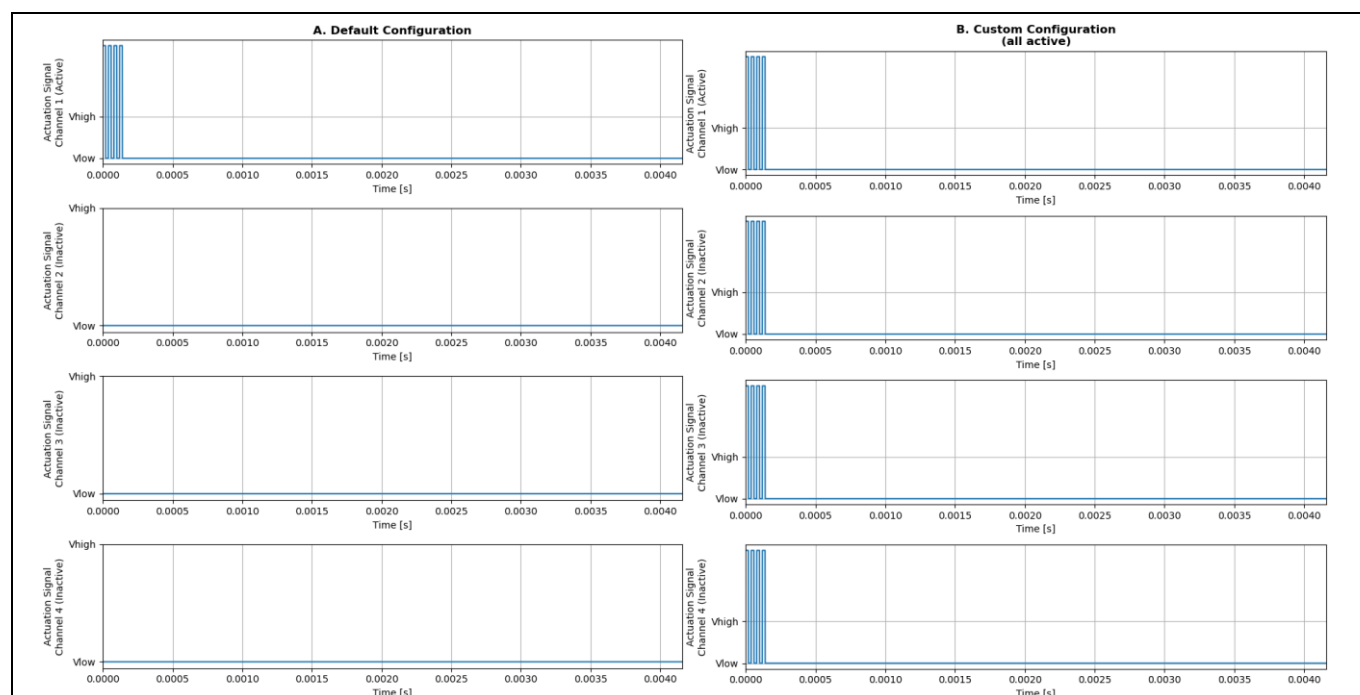

Figure 10 Examples of actuation signals for default (A) and custom configuration with all channels active (B)
Default configuration sees only channel 1 active as transceiver, i.e., sending and receiving, and channels 2, 3 and 4 inactive, i.e., receiving only. Figure 10 illustrates the actuation patterns for the default configuration (A) as well as custom configuration (B), with all four transceivers active in sending mode.